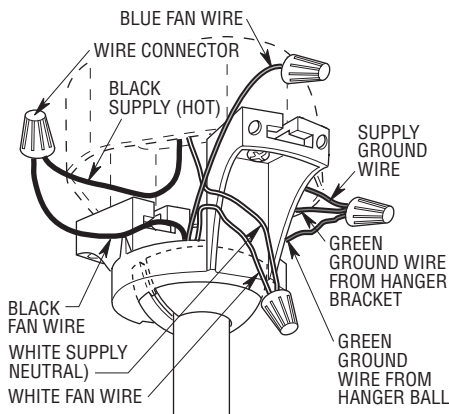

Figure 16
2. Securely connect the fan motor white wire to the supply white (neutral) wire using wire connector supplied (Figure 16). Securely connect the fan motor black wire to the supply black (hot) wire using wire connector supplied (Figure 16).